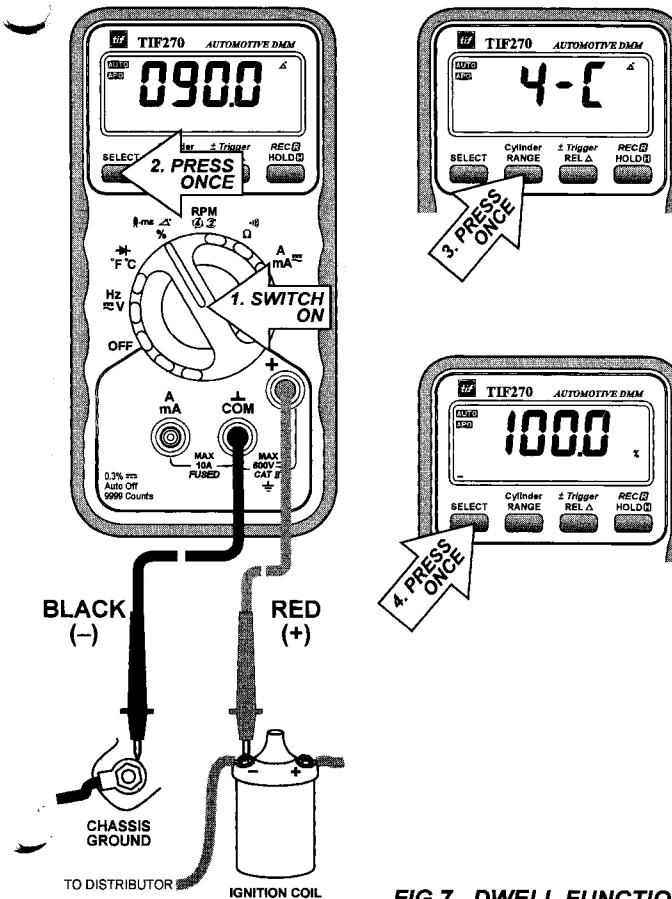

FIG 7. DWELL FUNCTION
- 5) Connect the test leads as shown in **FIG 7** and observe the digital display